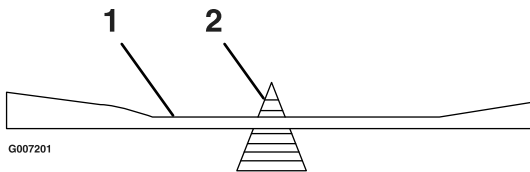

Figure 36
2. Check the balance of the blade by putting it on a blade balancer (Figure 36). If the blade stays in a horizontal position, the blade is balanced and can be used. If the blade is not balanced, file some metal off the end of the sail area only (Figure 36). Repeat this procedure until the blade is balanced.